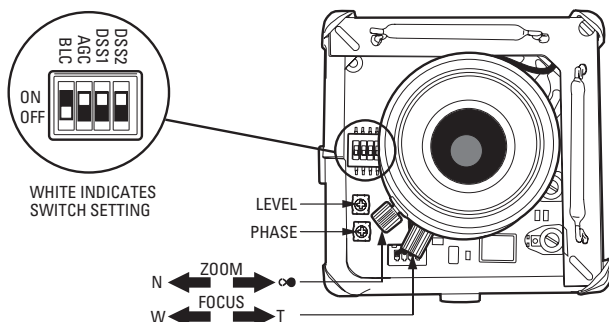

Figure 7. Default Switch Settings and Location of Camera Adjustments
1. Select a field of view by turning the zoom adjustment ring. Refer to Figure 7.
2. Select a camera and synchronize it to the reference camera by turning the phase adjustment control (refer to Figure 7) clockwise and/or counterclockwise.
To adjust the auto iris level, turn the level adjustment counterclockwise to decrease the brightness level and clockwise to increase the brightness level. Refer to Figure 7 for the location of the level adjustment.